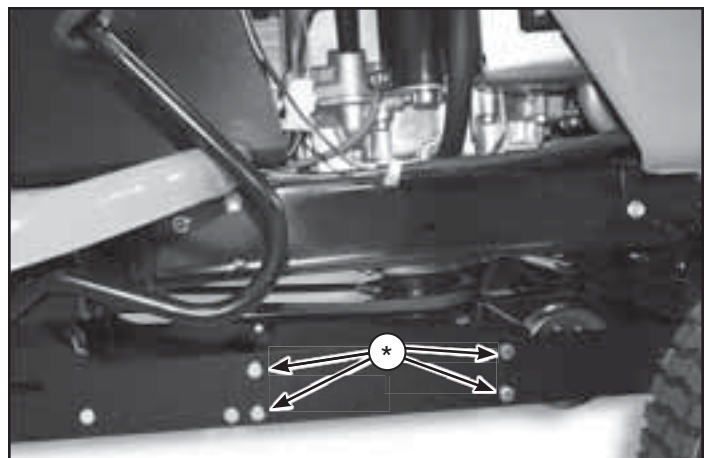

Figure 12
1. On right side of tractor, remove the four (4) hex bolts (*, Figure 12) and nuts from hitch assembly.